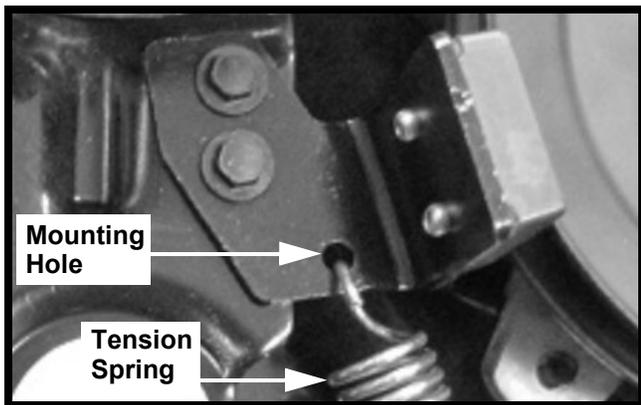

FIGURE 7
17. Install the tension spring from Step 9 into the hole in the RH Deck Brake Assembly as shown in Figure 7.